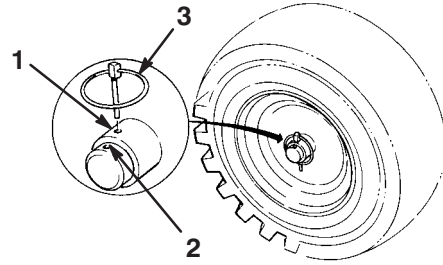

Figure 4
7. Slide the wheels inward and insert each axle pin through the hole in each wheel hub and through the inner hole of the axle (Fig. 4).